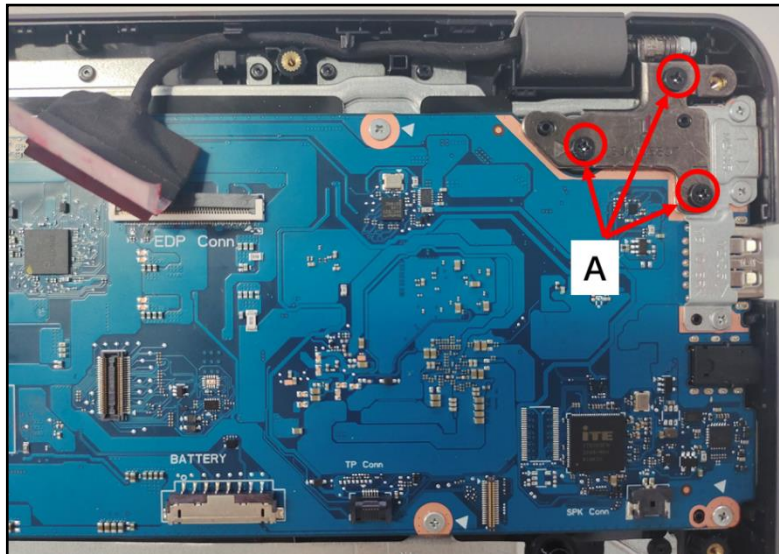

Figure 3-34. Mainboard Removal
1. Remove three (3) screws (A) securing the left LCD hinge (Figure 3-34).